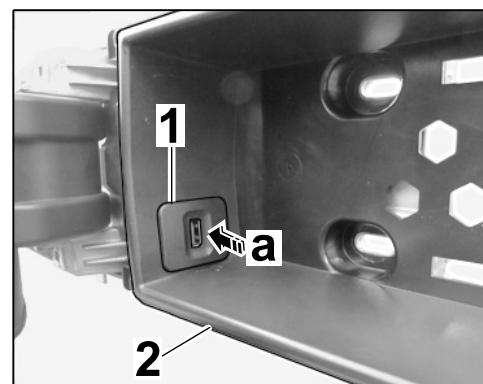

Figure 12
3.3 Clip USB interface  $\Rightarrow$  *Figure 12-1-* into center console  $\Rightarrow$  *Figure 12-2-* ( $\Rightarrow$  *Figure 12-a-*).